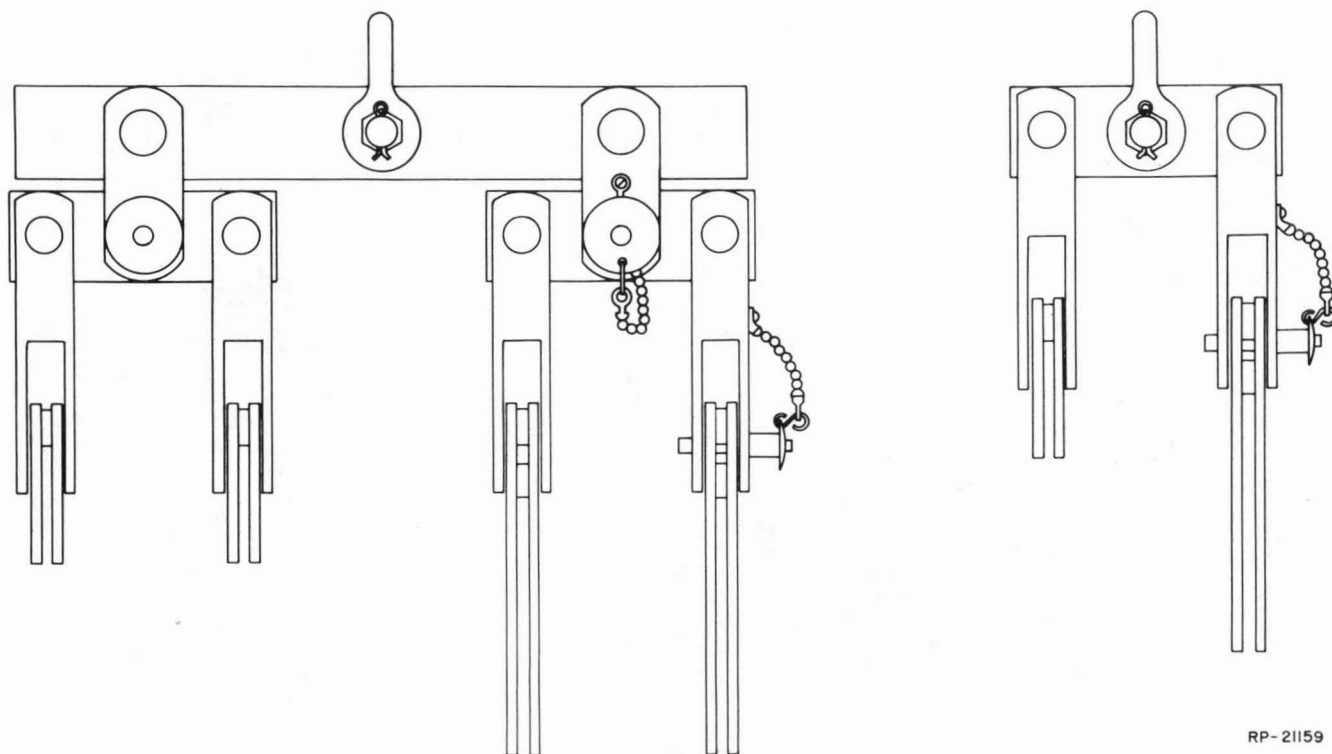

FIG. 8 COMBINATIONS OF THE R-3625 (Para. 3.34)
3.34 The R-3625 Lifting Jig for the Westinghouse duct slides onto the bus bars and bolts to the bar thru the splice holes in the bars. Use the steel splice bolts supplied by Westinghouse for securing the R-3625 to the bus bars. The installer can assemble the R-3625 in various combinations. These combinations will fit any size Westinghouse dc duct. See Figure 8.